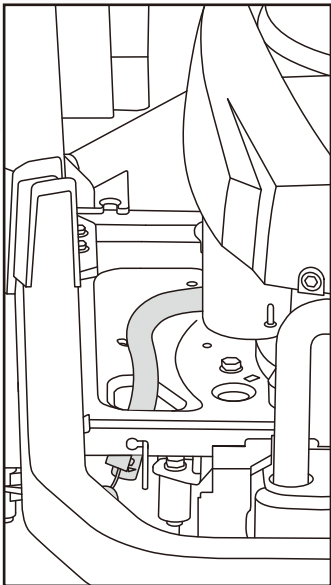

Fig.30B
6. Rotate counterclockwise and pull the drain plug outward. (Fig.30B)